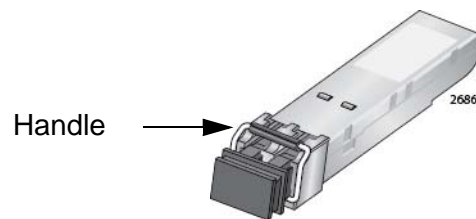

Figure 34. Handle on the AT-StackOP/0.3 and AT-StackOP/9.0 Transceivers
2. To install the transceiver in the S1 slot, position it with the handle on top, as shown in Figure 34. To install it in the S2 slot, position it with the handle on the bottom.